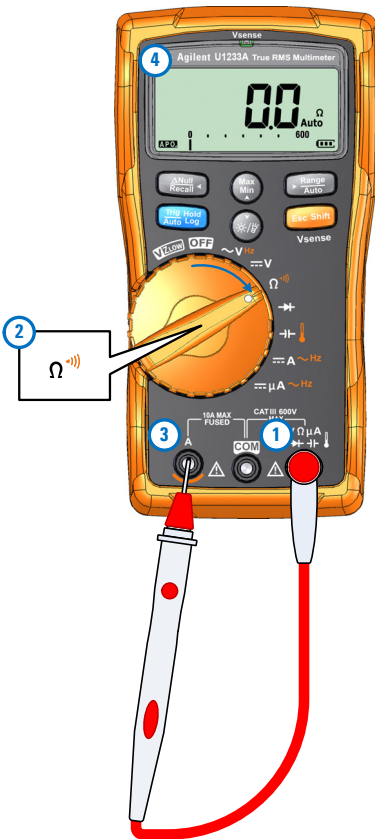

Figure 2-1 Testing the fuse
- To test the fuse, place the tip of the test probe on the top half of **A** input terminal. Ensure that the probe tip touches the metal inside the **A** input terminal, as shown in Figure 2-1.